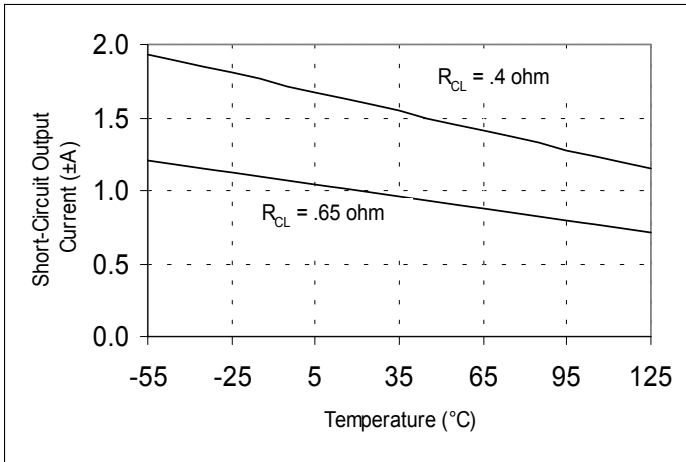

Figure 1. Typical Short-Circuit Output Current vs. Current Limiting Resistors ($\pm R_{CL}$)
- It is recommended that external current limiting resistors ($\pm R_{CL} \geq 0.4\ \Omega$) be used to ensure that 2.0 A is not exceeded. See Figures 1, 2 and 4 for R_{CL} application information.